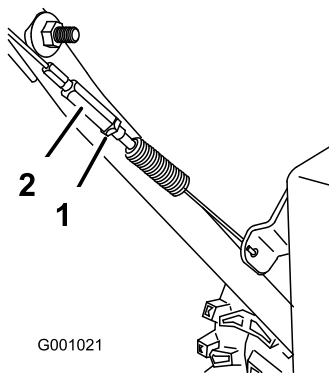

Figure 43
3. Tighten the jam nut (Figure 43).